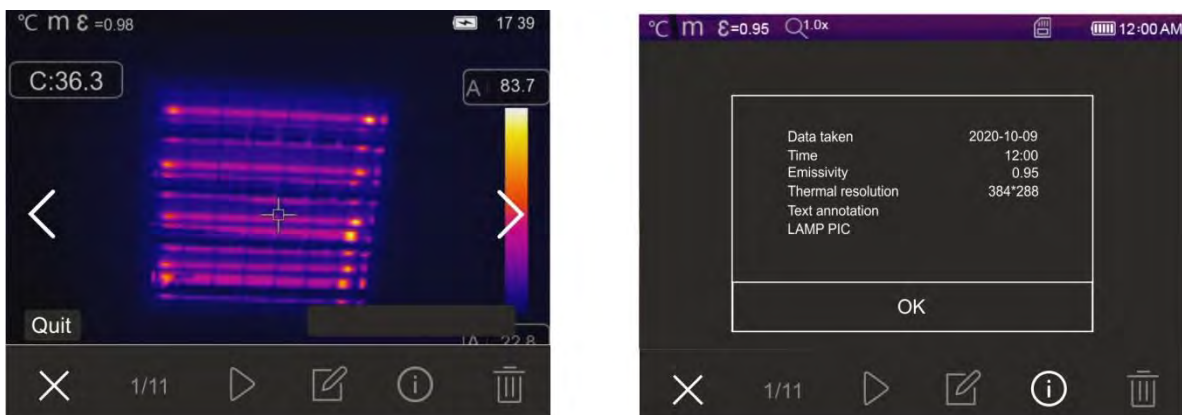

Fig. 47: Recalling on the display the images saved
1. Press key  to enter the gallery of the images and videos saved in the instrument's memory or on the micro SD card. The following screen in Fig. 47 – left side is shown on the display
3. Touch the icon “i” to open the section containing the information about the saved image. The screen in Fig. 47 – right side appears on the display.